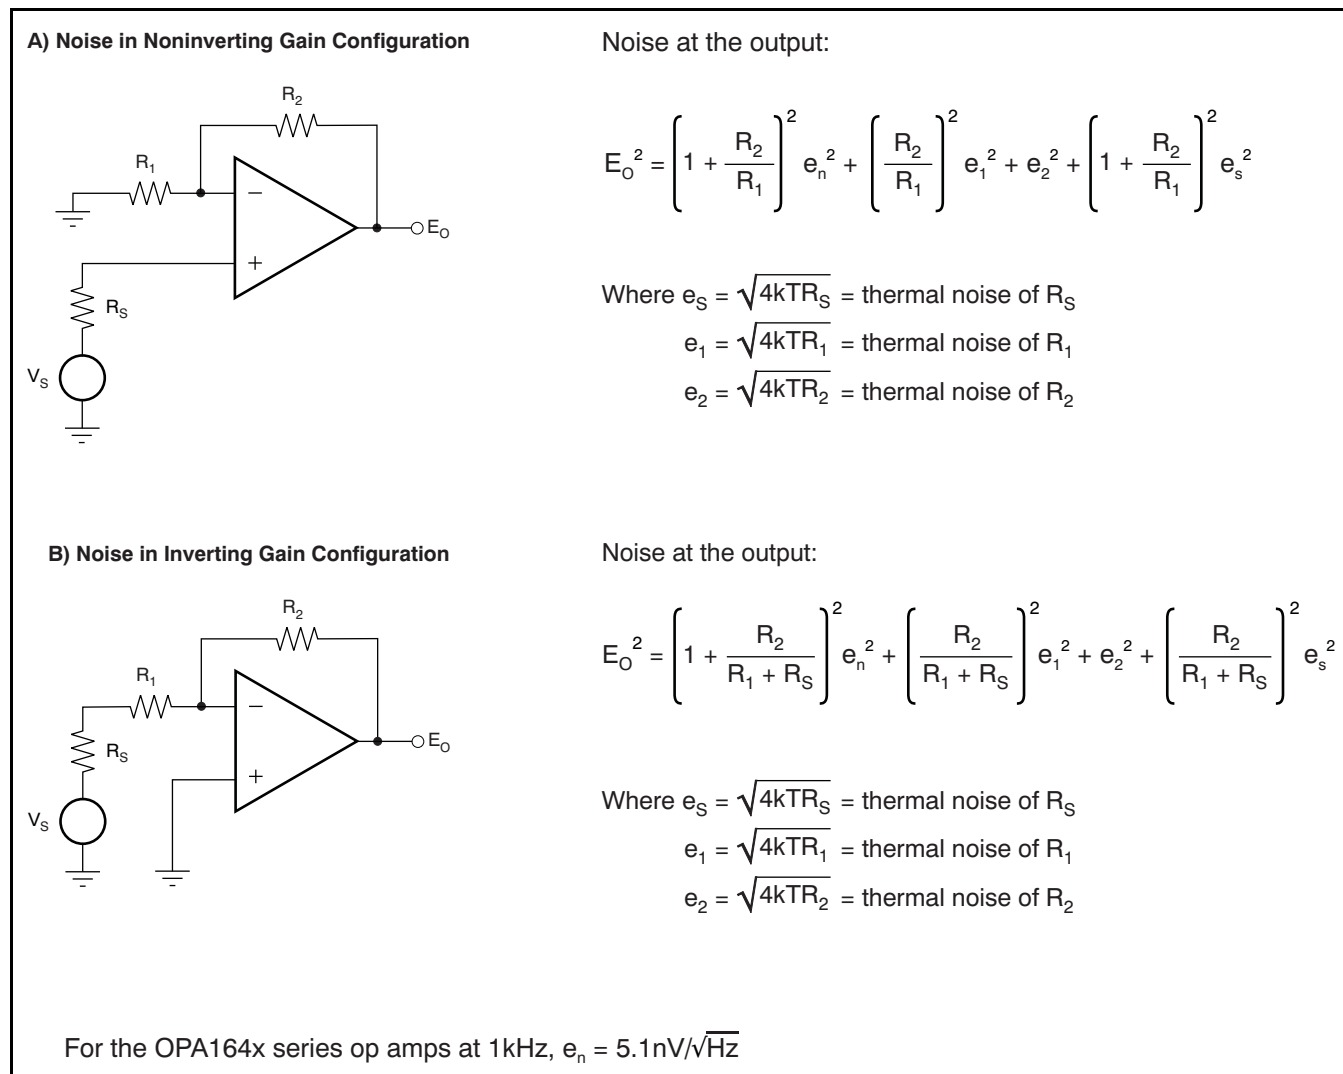

Figure 32. Noise Calculation in Gain Configurations
Figure 32 illustrates both noninverting (A) and inverting (B) op amp circuit configurations with gain. In circuit configurations with gain, the feedback network resistors also contribute noise. In general, the current noise of the op amp reacts with the feedback resistors to create additional noise components. However, the extremely low current noise of the OPA164x means that its current noise contribution can be neglected.